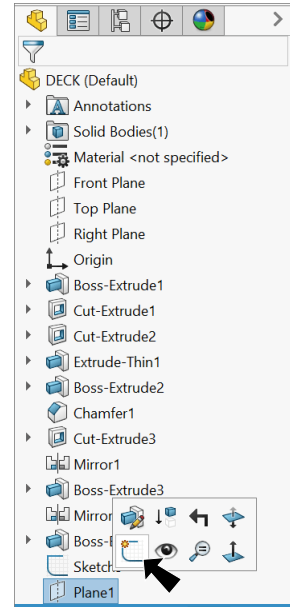

Fig. 85
Step 2. Click **Plane1**  in the Feature Manager and click **Sketch**  on the context toolbar, **Fig. 85**.